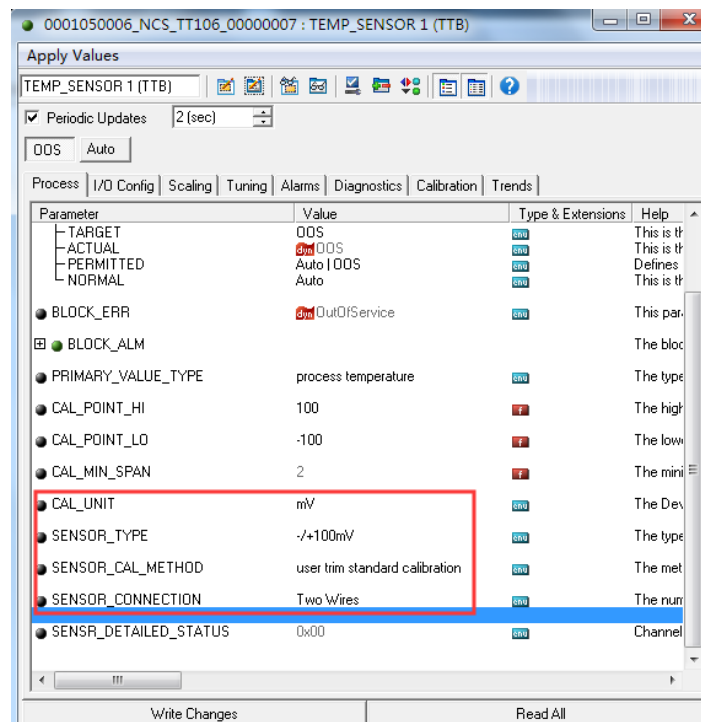

Figure 3.8 Two-point linearization calibration configuration diagram
(1) Set the TEMP_SENSOR1 MODE parameter of the transducer block to OOS, and set the SENSOR_TYPE parameter to -/+ 100mV. Set the calibration unit parameter CAL_UNIT to mV according to the sensor type, and set the parameter SENSOR_CAL_METHOD to "User Trim Standard Calibration". The setting diagram is shown in Figure 3.8 below.